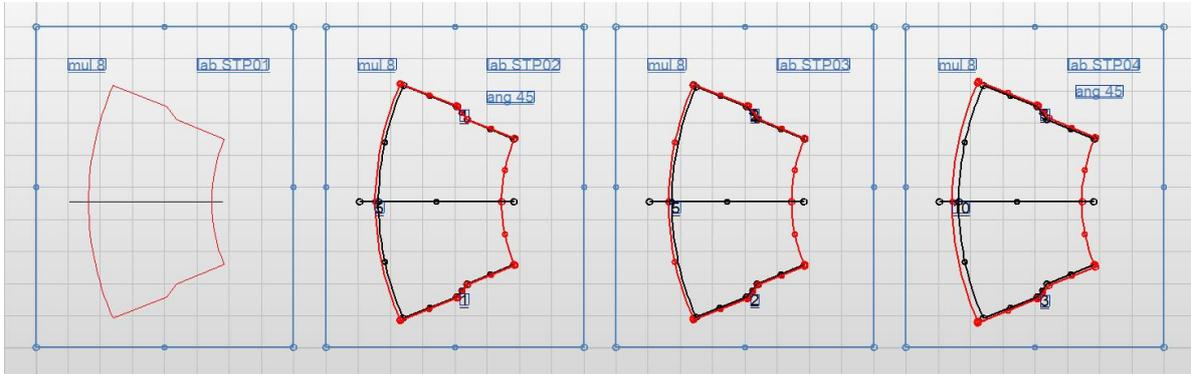

Figure 88
- DELETE:** Now select all objects except of our base geometries (Figure 88) and delete  (shortcut **-DEL-**) them.